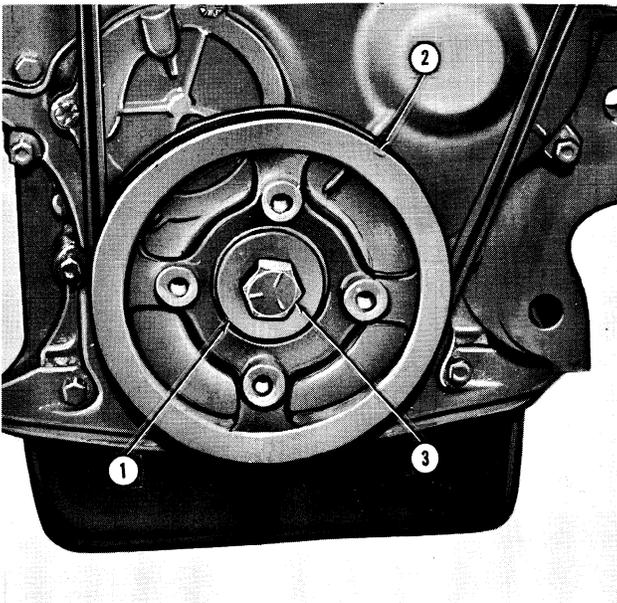
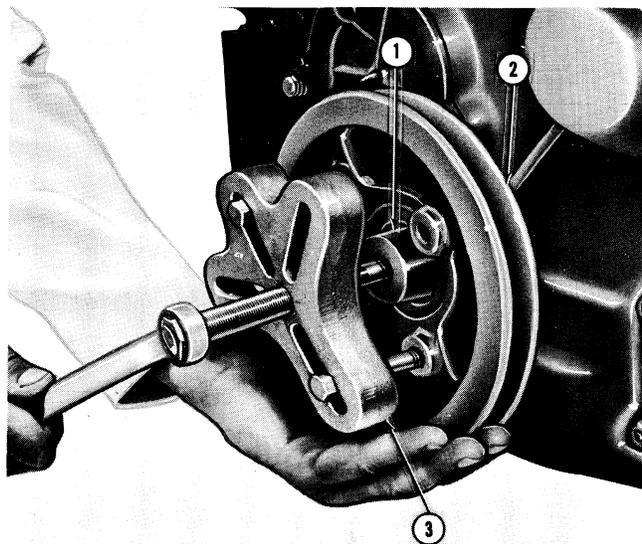

Figure 19
Figure 20
1. Remove the fan belt. Remove the bolt and washer from the crankshaft pulley, Figure 19, using Puller No. 518 and Shaft Protector No. 625-1, as shown in Figure 20. To use the puller for this purpose, 7/16 in. X 14 UNC bolts have to be used and the slots in the puller enlarged.